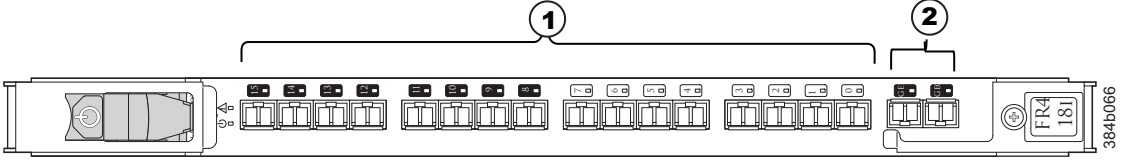

Figure 59. FR4-18i routing blade
- Figure 59 on page 148 shows an FR4-18i routing blade